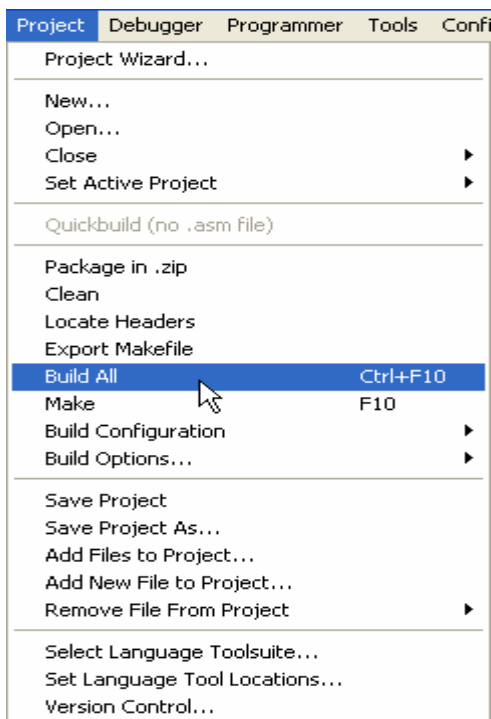

Figure 22: Building your Project
Step 2: To compile your project, select "Project" -> "Build All" (Figure 22). The compiler will report any syntax errors at this point.